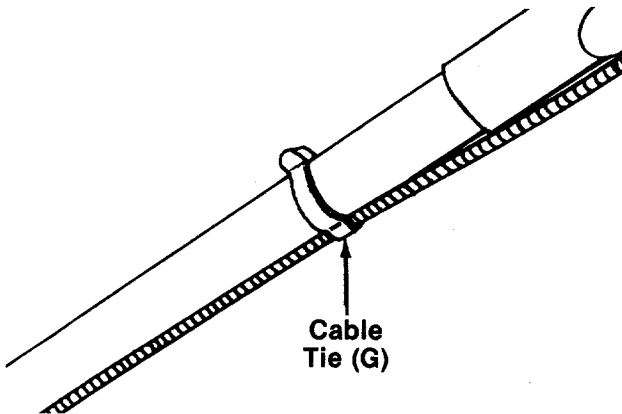

FIGURE 11.
- 16. Secure control cables to upper and lower handles with cable ties (G). See figure 11.
- 17. Insert plastic plug (P) into hole in the top rear of the deck by slipping one end of plug into hole, then pressing down on the other end of plug.